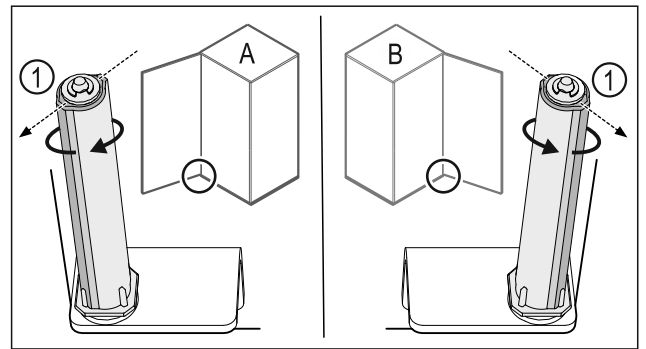

Fig. 41 Left stop (A) / right stop (B)
- ▶ Turn the locking system against the resistance until the bar on the locking system Fig. 41 (1) is pointing outwards.